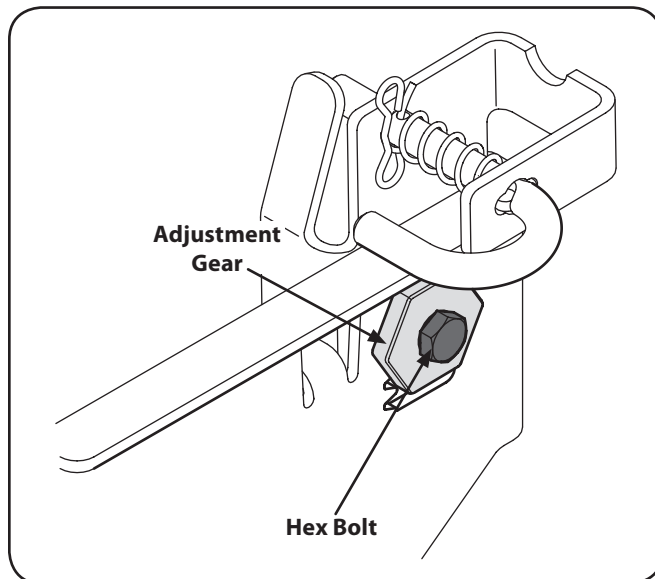

Figure 6-4
3. Loosen, but do NOT remove, the hex bolt on the rear left deck hanger link. See Fig. 6-4.
4. Using a wrench, raise or lower the left side of the deck by turning the adjustment gear. See Fig. 6-4.